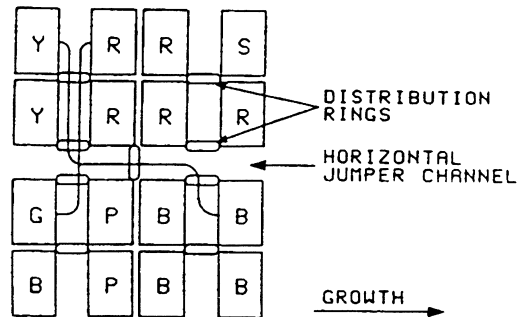

Figure 4
- figure 4 — SL-1 apparatus cross-connect terminal